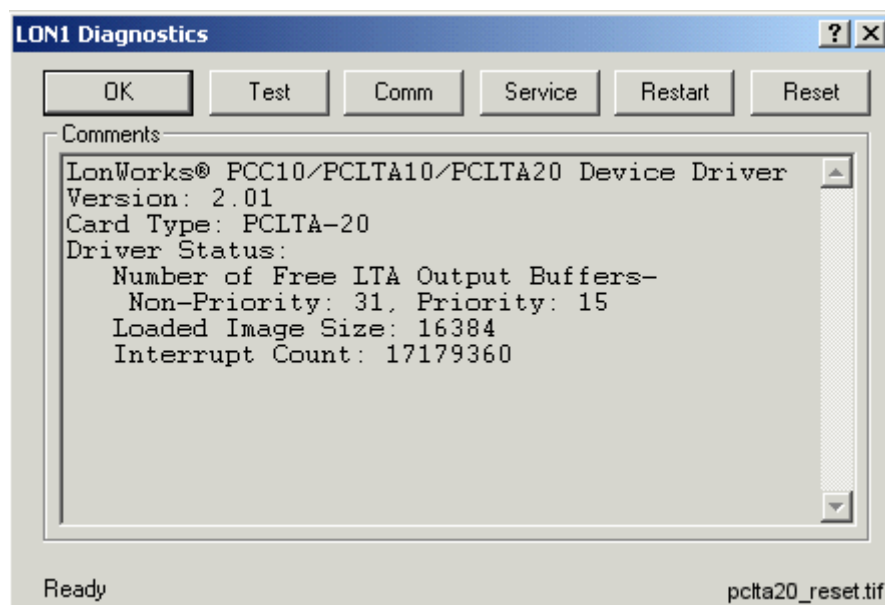

Fig. 5.6.4.2.-4 Some basic diagnostics information available indicating that the device driver has been started and can be configured
15. On the LonWorks Plug'n Play control panel (see Fig. 5.6.4.2.-2 above), click the Diagnostics... button to open the Diagnostics dialog shown below.